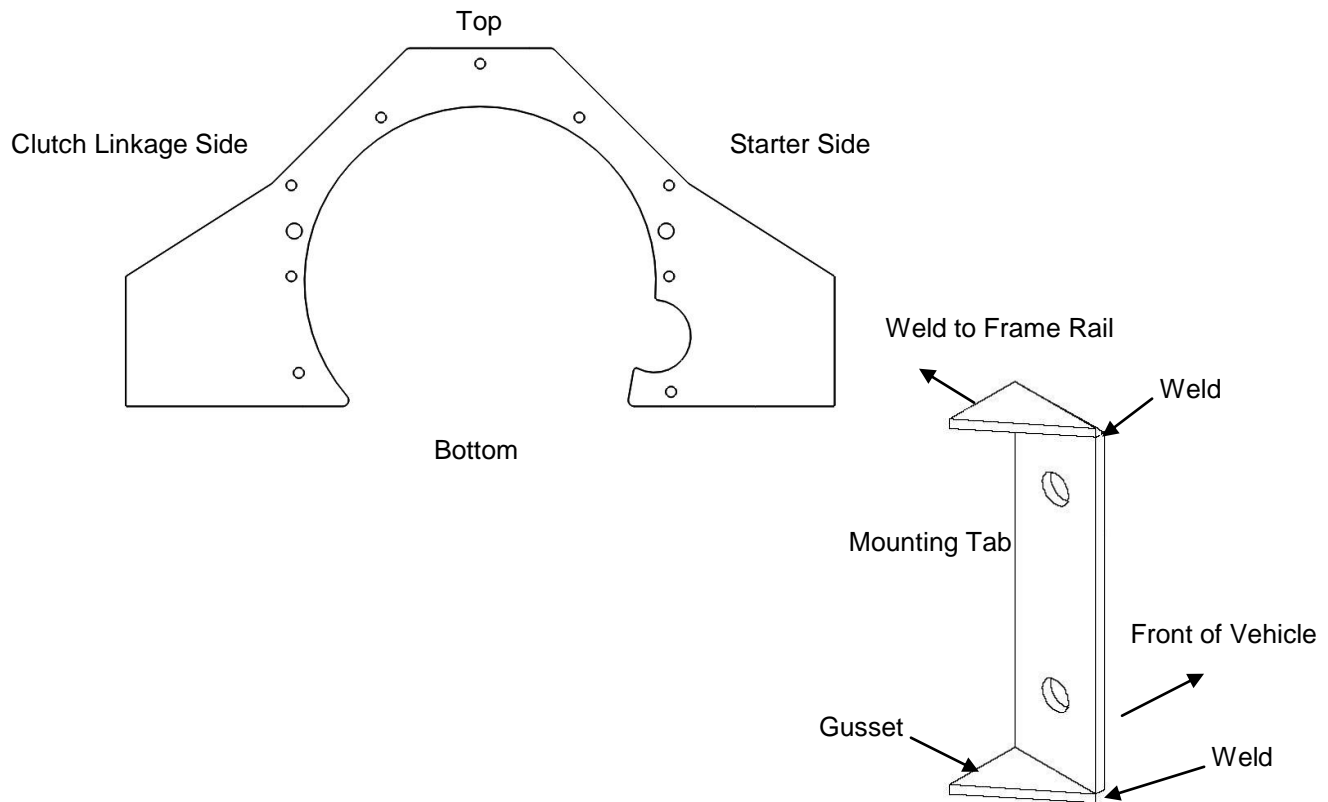

FIGURE 1
6. The mounting bracket location for the mid-mount plate may vary with each vehicle. Find a suitable bracket location, tack weld in place and check clearances. See Figure 1.